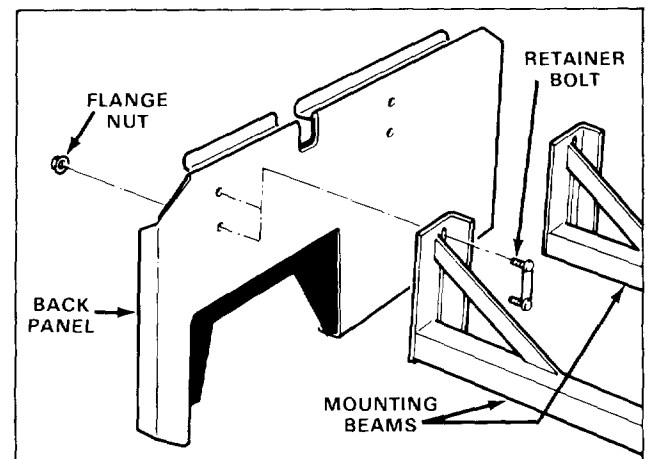

Figure 3
1. Secure mounting beams to back panel with retainer bolts and 3/8-16 flange nuts. Top of beam brackets should be flush with top of back panels (Fig. 3).